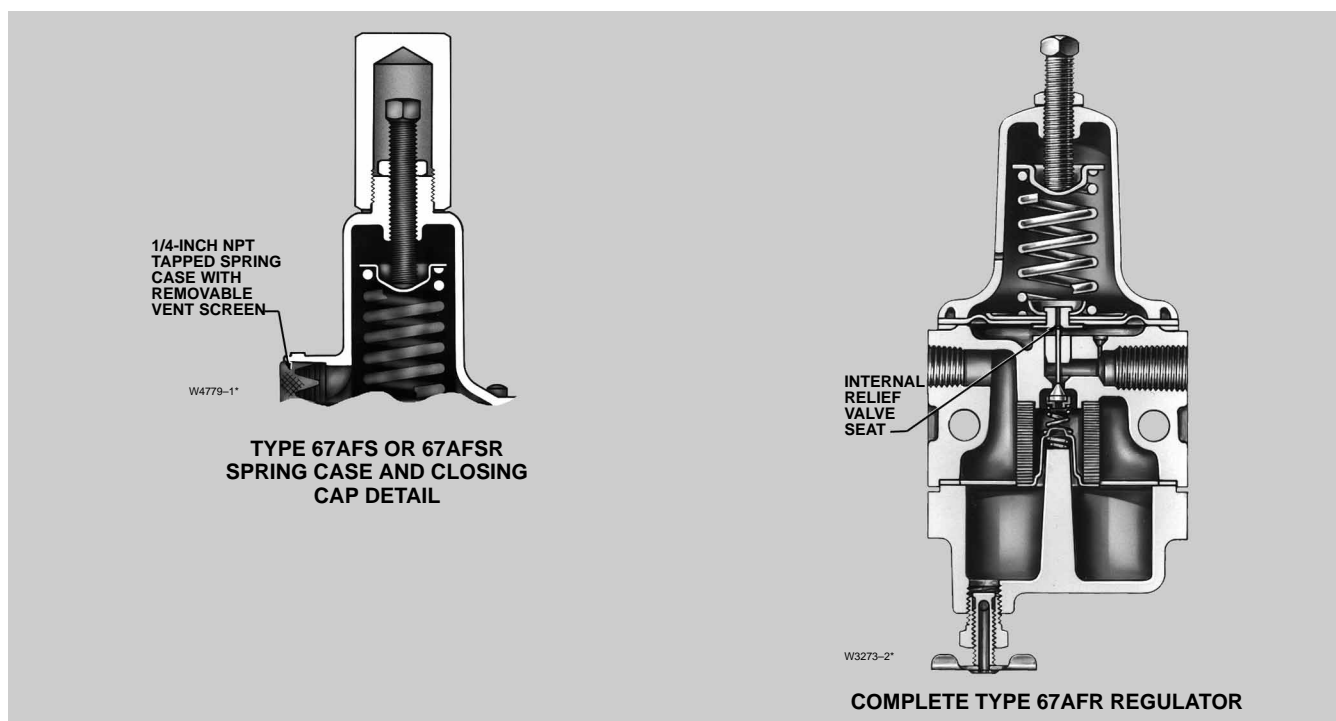

Figure 2. Filter Regulator Construction Features
- **Filtering Action**—A Type 67AF, 67AFR, 67AFS, or 67AFSR regulator (figure 2) has an internal filter to help clean impurities from the process fluid, removing particles that might damage the regulator or downstream equipment. The filter has a free area of 12 times the pipe area and can be obtained in glass, resin-impregnated cellulose, or stainless steel.
- **Internal Relief**—Although not designed to provide full overpressure protection, a token-capacity internal relief valve (indicated by an R in the type number as shown in table 1) allows partial reduction of downstream pressure without the necessity of an external relief valve being opened. The internal relief valve seat (figure 2 or 3) has a soft molded diaphragm insert.
- **Smooth, Close Regulation and High Stability**—Regulator design (figure 2 or 3) isolates the diaphragm and pressure response chamber from the main flow stream.